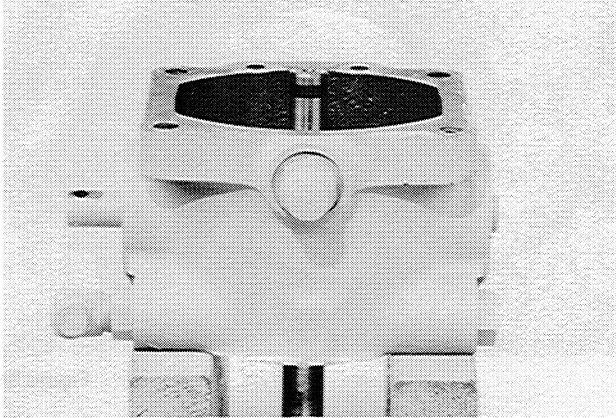

Figure 25
25. See Figure 25. Put the housing on blocks so that the pump shaft is not in contact with the work bench.